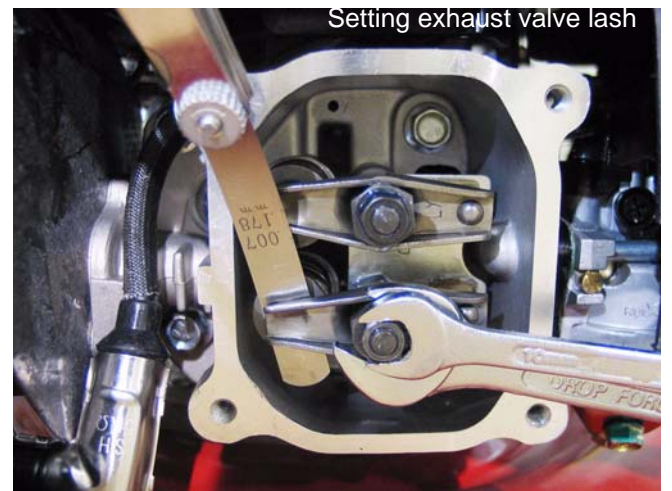

Figure 2.11
7. Check valve lash between each valve stem and rocker arm using a feeler gauge. See Figure 2.11.